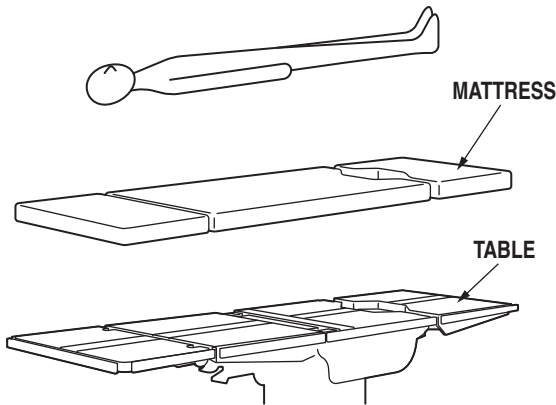

Figure 2-25. Patient Positioning
3. Set up the patient's position in accordance with the purpose of the operation. (Figure 2-25)